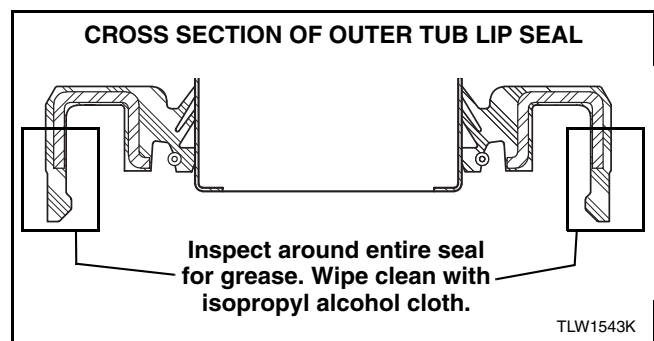

Figure 57
- Inspect outer tub lip seal for grease. Refer to Figure 57. Wipe clean with a cloth and isopropyl alcohol (rubbing alcohol).